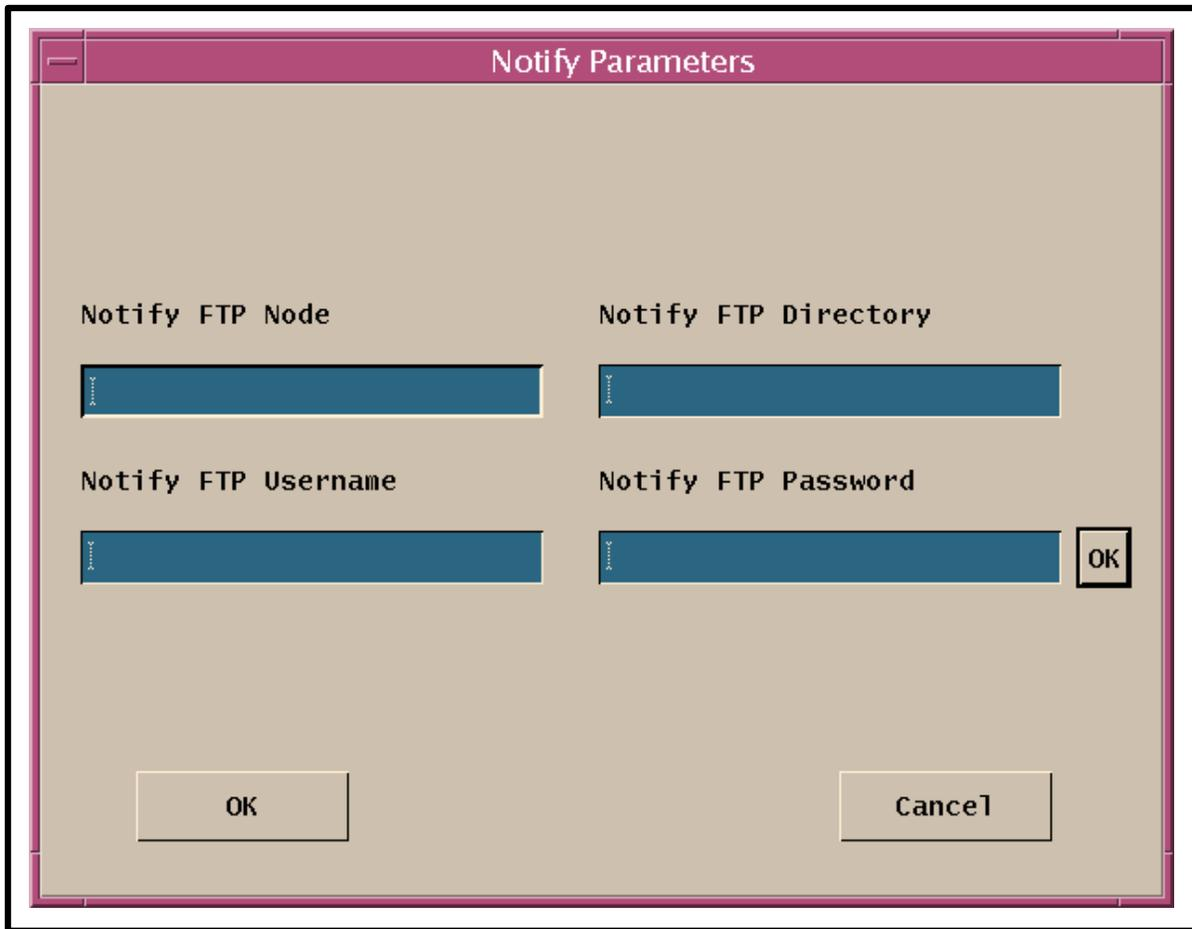

Figure 35. Notify Parameters
- The **Notify Parameters** window (Figure 35) is displayed.
- The **Notify Parameters** window (Figure 35) is dismissed.